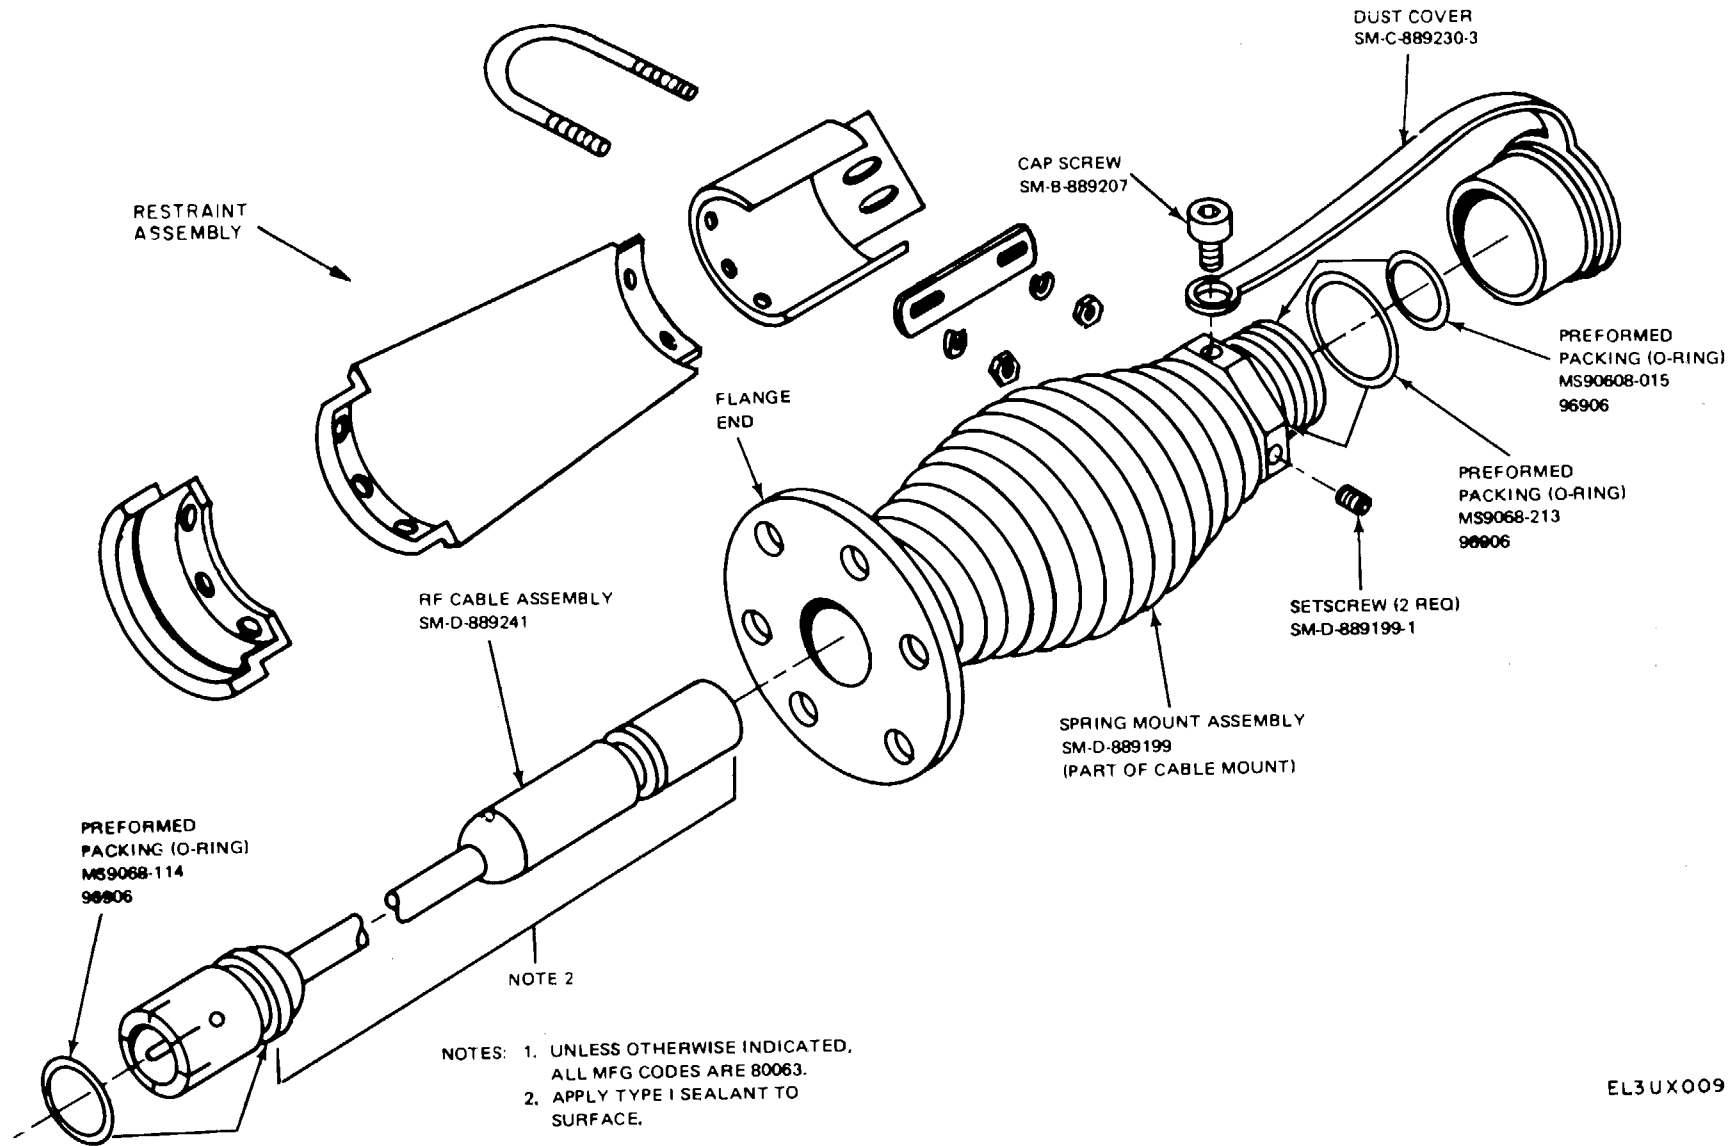

Figure 6-2. Cable mount assembly, exploded view, parts location, with restraint assembly.
a. Rf Cable Assembly (SM-D-889241) (fig. 6-2 and 6-3).
(1) Removal.
(b) Apply a bead of type I sealant (item 8, app E) around the circumference of the shell of rf cable assembly (fig. 6-2) that is assembled into the flanged end of spring mount assembly. Apply one bead above the groove for the setscrews and one below.